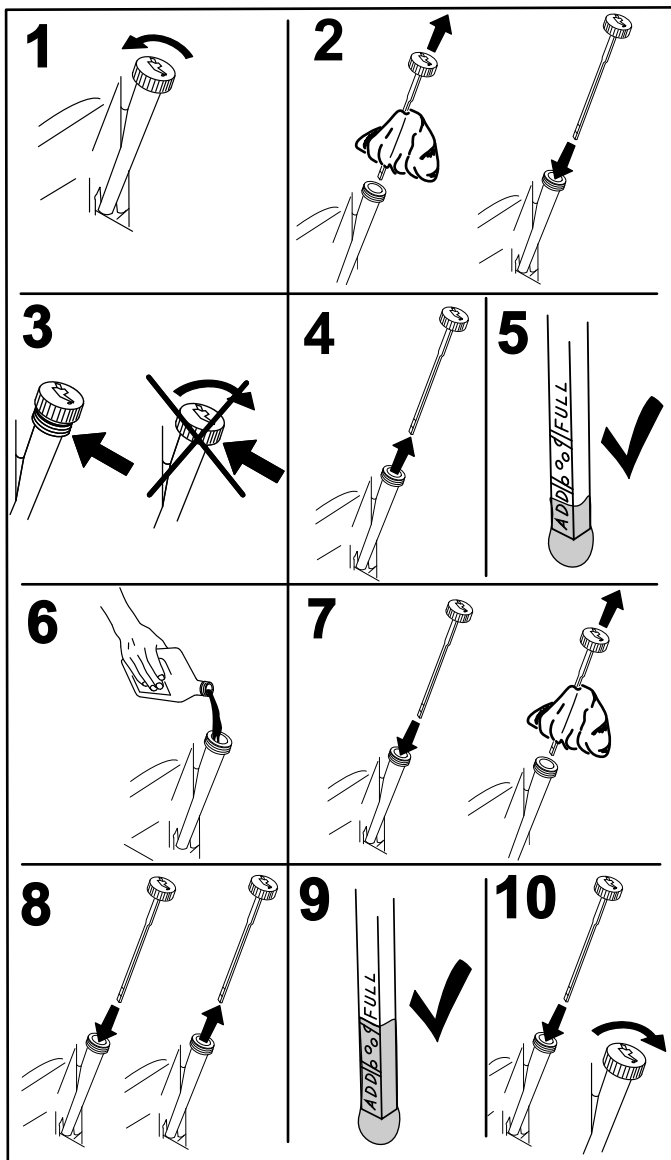

Figure 15
2. Remove the dipstick (Figure 14) and wipe it with a clean cloth (Figure 15).